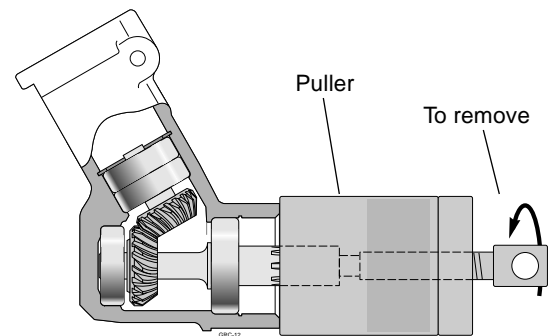

Figure 11.5 Removing the output shaft.
STEP 1. Thread the appropriate puller bolt completely into the puller body (Figure 11.5).